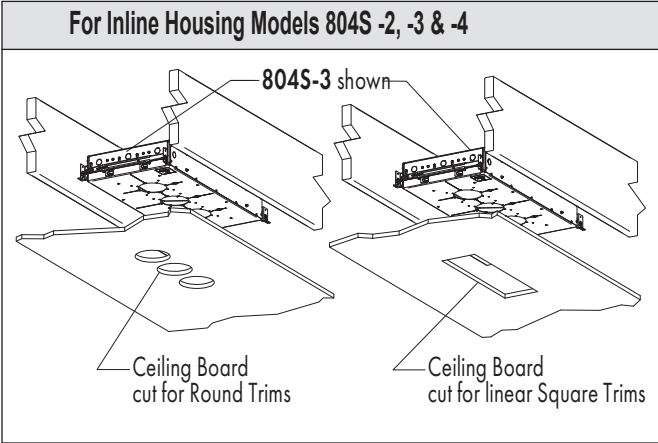

FIG 4.1 Install Ceiling Board
Step 3 After making trim cutouts, install USG "Imperial" or equivalent ceiling board (drywall/sheetrock) and finish with one coat of USG sheetrock primer or equivalent-FIG 4.1 & 4.2.